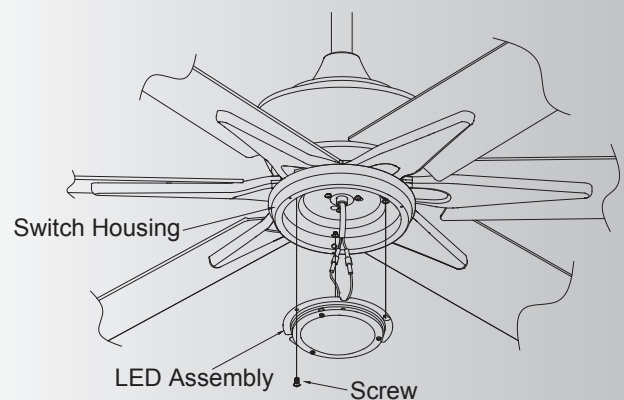

Fig. 21
**Step 2.** Connect the 2 single pin connectors from the LED assembly to the 2 single pin connectors from motor assembly, BLACK to BLACK, WHITE to WHITE. Assemble the LED assembly to the switch housing using the two key slots. Replace the removed screw and secure all three screws. (Fig. 21)